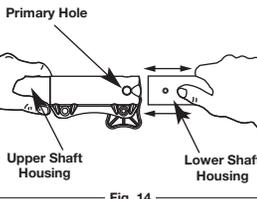

Fig. 14
2. While firmly holding the add-on, push it straight into the EZ-LINK® coupler (Fig. 14).
3. While firmly holding the upper shaft housing, pull the cutting attachment or add-on straight out of the EZ-LINK® coupler (Fig. 14).